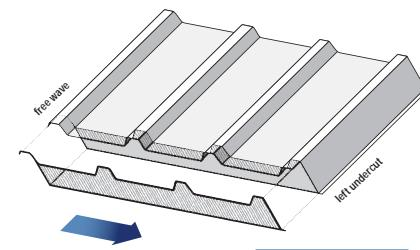

fig. 14
- Roof panels installed from the left side to the right one (empty „hump” on the left) - **left undercut**. (fig. 14).